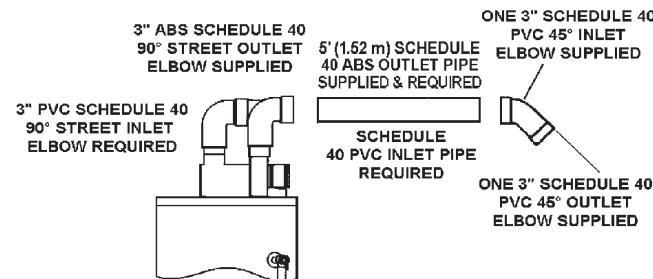

FIGURE 10. HI BTU MODELS.
A. ALL 75 GAL. (283.9L) 65,000 & 70,000 BTU/HR MODELS & 50 GAL.(189.3L) 60,000 & 65,000 BTU/HR MODELS, SEE FIGURE 10.